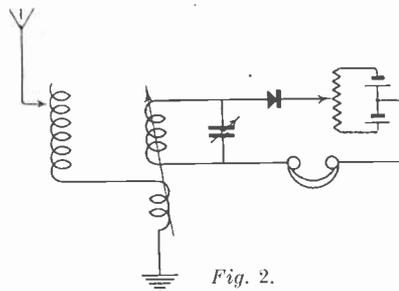

Fig. 2.
**"PERIKON" (Farnborough)** asks (1) Which of two crystal circuits is the better. (2) If 30ft. high and 45ft. long aerial (twin) is suitable. (3) If it matters the set being at the same height as the aerial.
(1) Your Fig. 2.
(2) Fairly good.
(3) Aerial should preferably be higher than the set.
(4) 1,000 metres with a 0.0005 mfd. condenser across the coil.
**"W.G.W." (Southsea)** asks (1) If a circuit sketched is suitable for telephony. (2) How to add an additional H.F. valve. (3) If slab coils are preferable to solenoid coils for telephony.
The circuit shown is very poor. See diagram Fig. 2 for correct circuit. A.T.I. may be 8" x 10" of No. 22. Closed circuit coils 8" x 5" of No. 26, with a 0.0005 mfd. condenser. There is no simple formula for calculating the range of the complete circuit. The closed circuit coil should slide into the A.T.I., which should be on a tube of ebonite or similar insulating material.